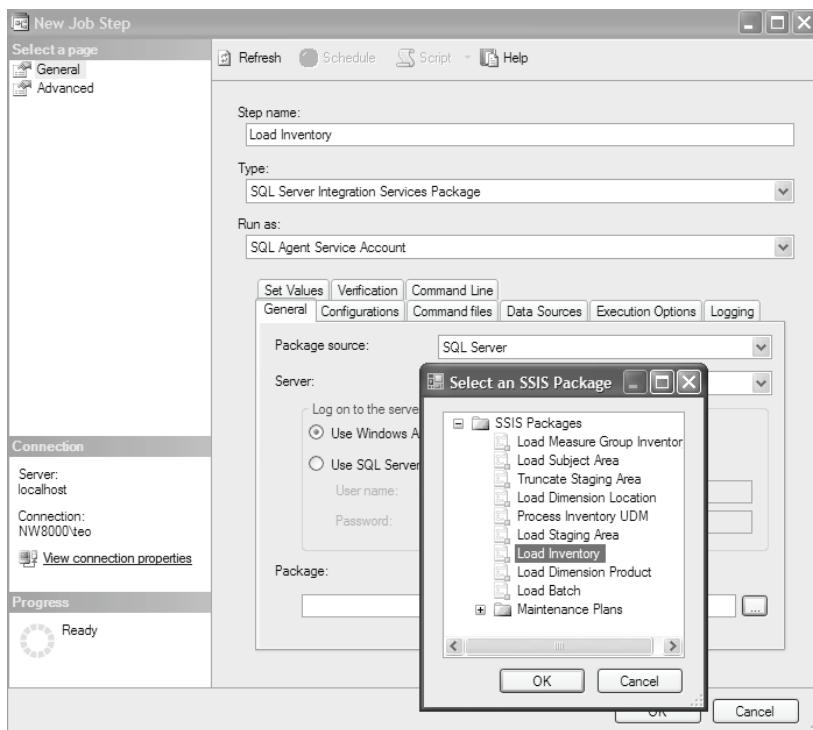

Figure 15.12 Create an SQL Server Integration Services Package step to run an SSIS package.
8. Click on the ... button next to the Package textbox and in the Select an SSIS Package dialog that follows select the Load Inventory master package (Figure 15.12).